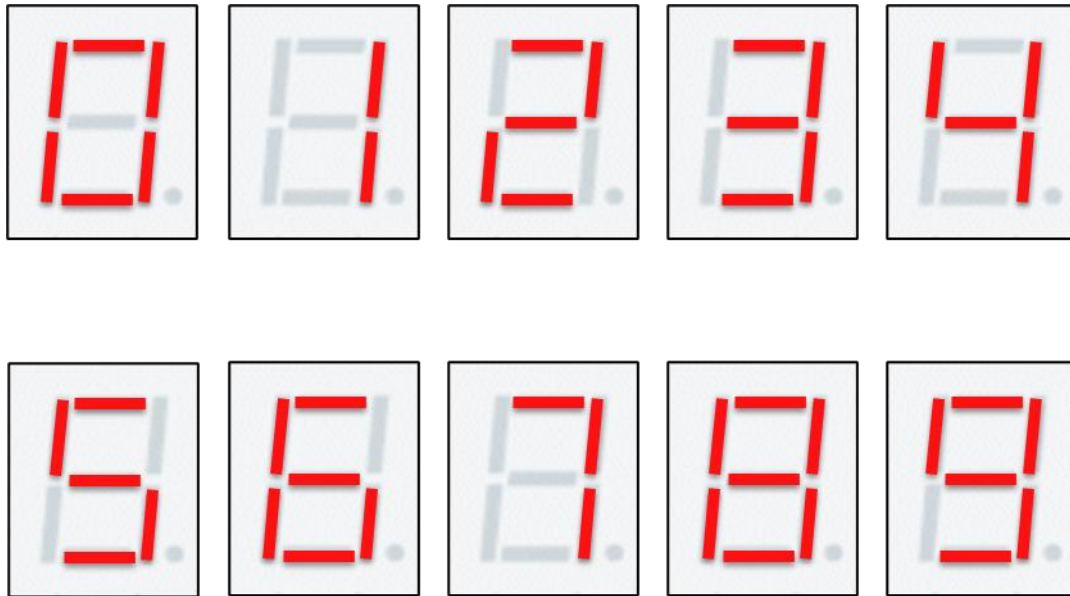

Fig. 3: LED configuration of the numbers ZERO to NINE. The decimal point (DP) can be neglected (e.g. set to '1')
- Implement the bit patterns in for the ZERO – NINE constants (line 45 - 54) so that it can be used to display decimal numbers on the 7-segment display (see Fig. 3).